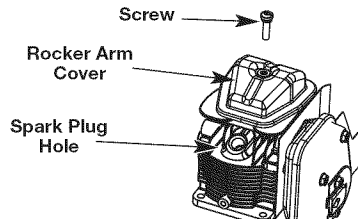

Fig. 42
5. Clean dirt from around the rocker arm cover. Remove the screw holding the rocker arm cover with a large flat blade screwdriver or Torx T-25 bit (Fig. 42). Remove the rocker arm cover and gasket.
- The piston is at the top of its travel. This should be done by looking into the spark plug hole. (Fig. 42)